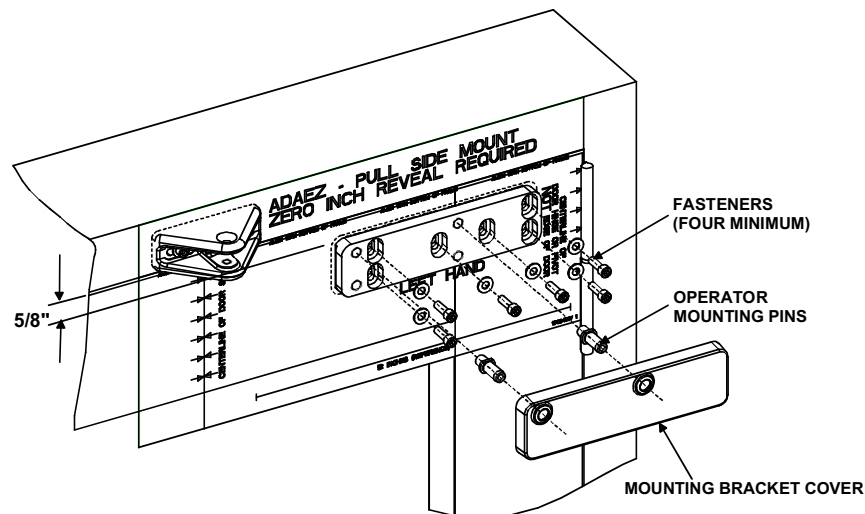

Figure 3
**If door is aluminum** and rivnuts must be installed, refer to Figure 3 and PERFORM the following:
**If door is wood**, refer to Figure 3 and PERFORM the following: